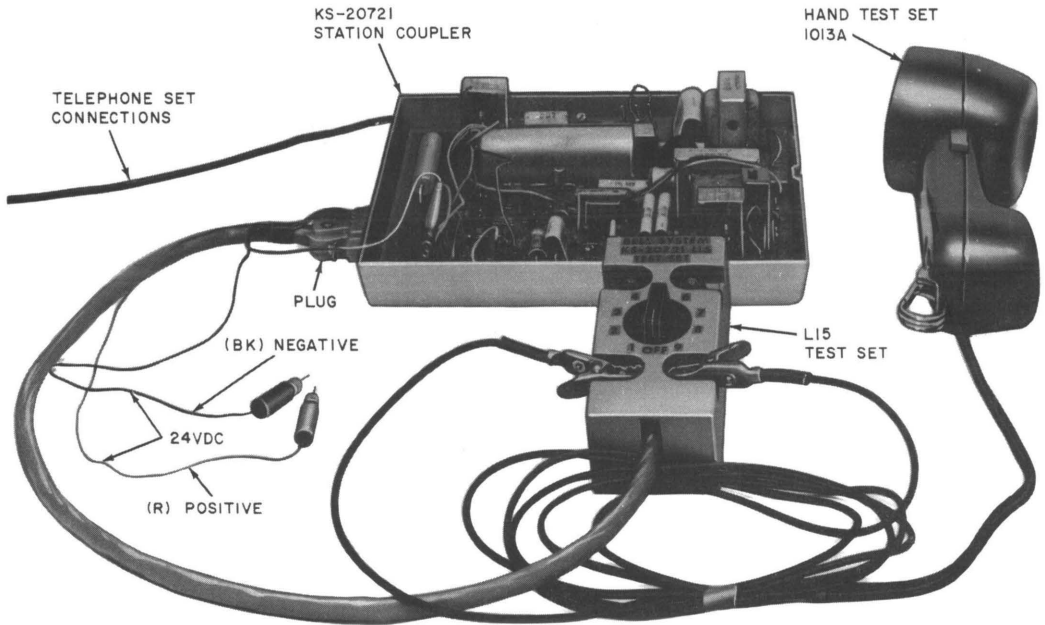

Fig. 3—KS-20721 Station Coupler With KS-20721, List 15 Test Set and 1013A Hand Test Set
**4.02** The List 15 test set (Fig. 3 and 4), used with the 1013A hand test set (or equivalent) and a connecting cable terminated in a plug for connection to the station coupler, permits checkout of the coupler independent of the CPE.
3	Connect a 1013A (or equivalent) hand test set to terminals provided on test set (Fig. 3).
6	Connect alligator clip on wire coming from the test set plug to the positive (+) terminal of capacitor C17 in the station coupler (Fig. 3).